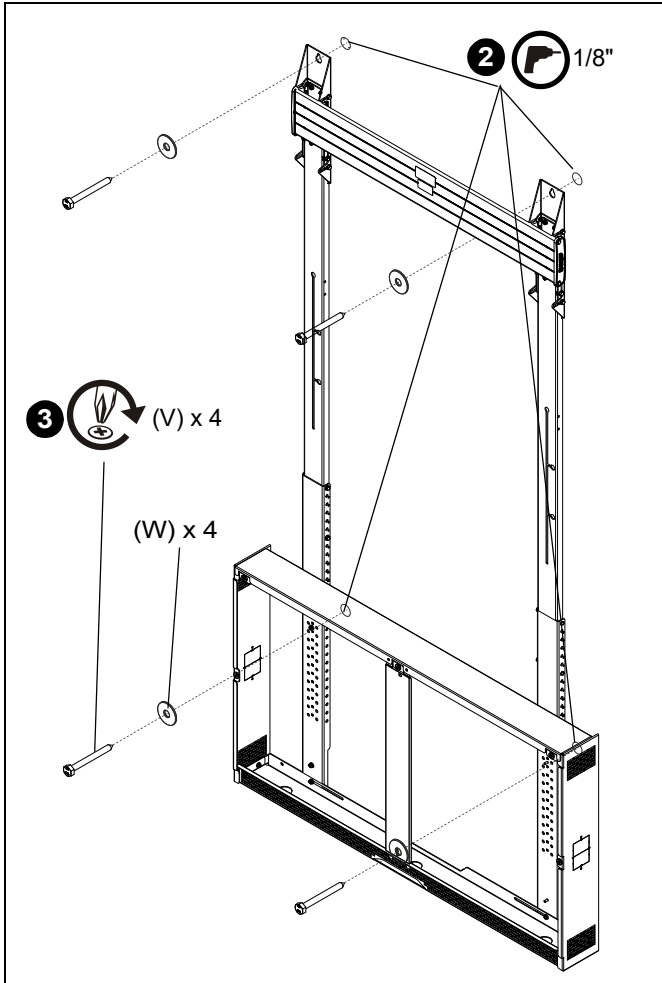

Figure 15
1. Mark hole locations at each mounting location based on locations of bottom uprights (F/G), mounting brackets (Q), and wood studs. Use a level to ensure of an even mount. (See Figure 15)
2. Drill 1/8" holes on marked hole locations. (See Figure 15)
3. Use four 1/4 x 2 1/2" hex head lag screws (V) and four 1/4" washers (W) to secure mounting brackets (Q) and bottom uprights (F and G) to wall. (See Figure 15)